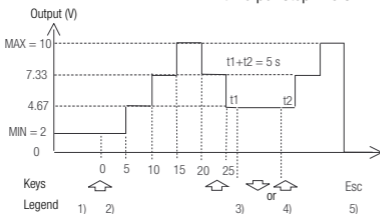

Figure 10 Example of a Step Function Sequence
The interval time per step over the range from 1 second to 60 minutes can be entered after the menu "INT AUT" has been selected, and the step sequence can be stopped by means of the keys \uparrow (3) and \downarrow (4) in accordance with Figure 10.